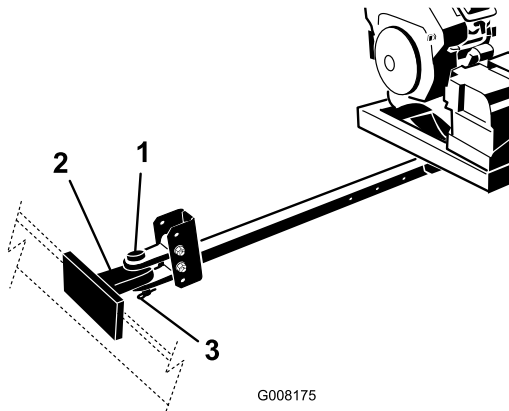

Figure 5
4. Connect the blower clevis hitch to the tow-vehicle hitch with the hitch pin and clevis (Figure 5).